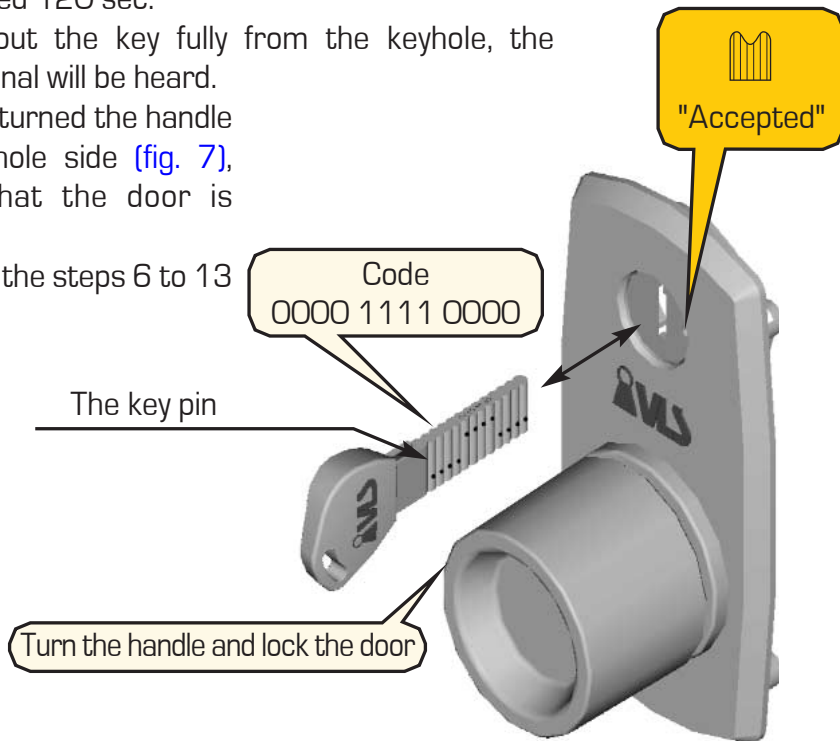

Figure 6 – Checking the lock: the first code entry
6. By turning the key segments, enter the code 0000 1111 0000, the key pin must be in the upper direction (fig. 6).
7. Turn the lock handle (fig. 6) to lock the door.